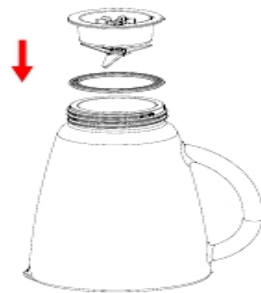

Fig. 3
- 1) Invert the jar onto a level surface, place the seal ring 2 and blade assembly onto the jar (See Fig.3).